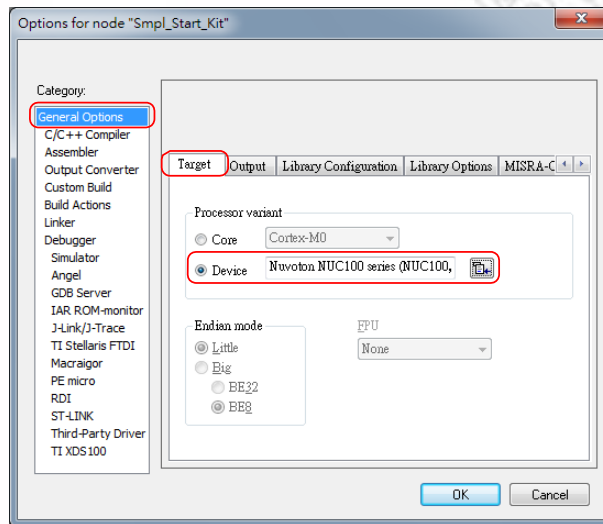

Figure 4-14 IAR EWARM Target Chip Selection
- Step 3: In the **Target** tab of the **General Options** page (through invoking **Project** → **Options**), click the button in the right of the **Device** option (make sure the **Device** option is enabled), and select “**Nuvoton** → **Nuvoton NUC100 series**” as the target chip (NUC100 series is this case), as shown in Figure 4-14.